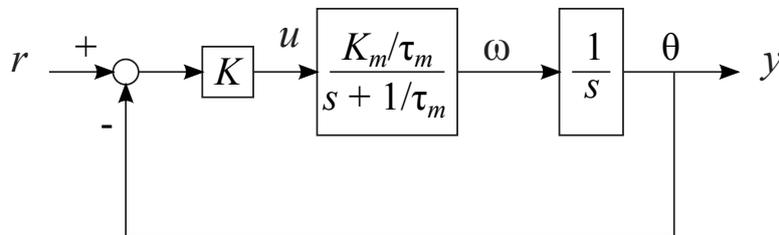
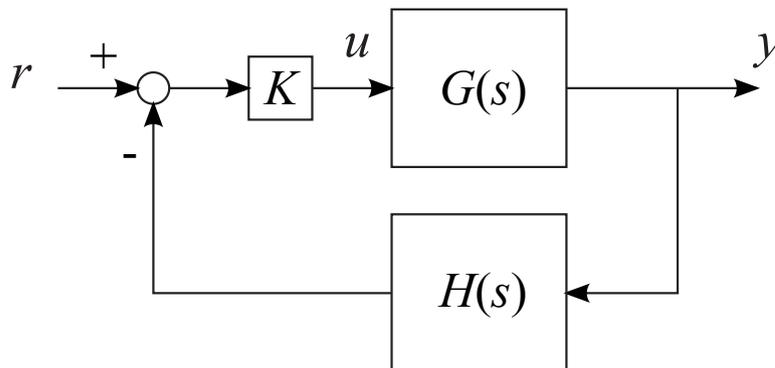

Figure 3.1: Block Diagram for Closed Loop Motor with Proportional Feedback
Figure 3.2: Standard Feedback Control Block Diagram
- Using block diagram manipulation on the block diagram in Figure 3.1, find the transfer functions $G(s)$ and $H(s)$ for the equivalent block diagram in Figure 3.2. Plug in the values for K_m and τ_m that you found in the *Open Loop Step Response* experiment.